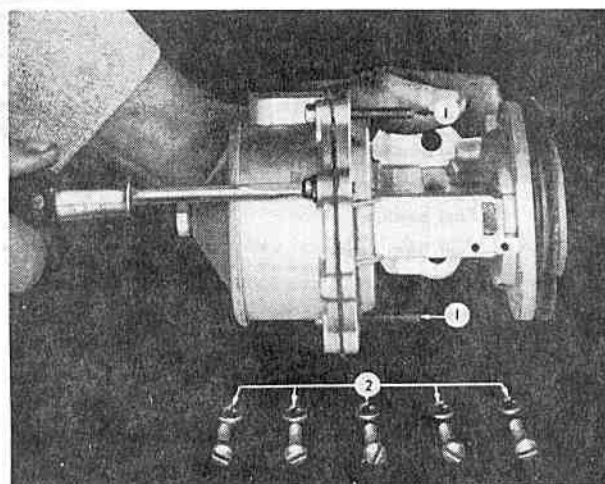

FIG. 390
Remove only two cover screws from opposite sides of the vacuum section cover and substitute for them two No. 10 — 32 x 1/2-inch fillister head screws (1, Fig. 390). Turn the two long screws all the way down and then remove the rest of the regular cover screws (2). Alternately back off the two long screws, a few turns at a time, (tap the cover with a screwdriver handle if the flanges stick together) until the force of the heavy vacuum diaphragm spring is no longer effective. Remove the two long screws, the cover assembly, diaphragm spring and spring retainer. To remove the diaphragms only, it is not necessary to remove links. The diaphragms may be unhooked from the links by tipping the end of the pull rod away from the mounting flange.